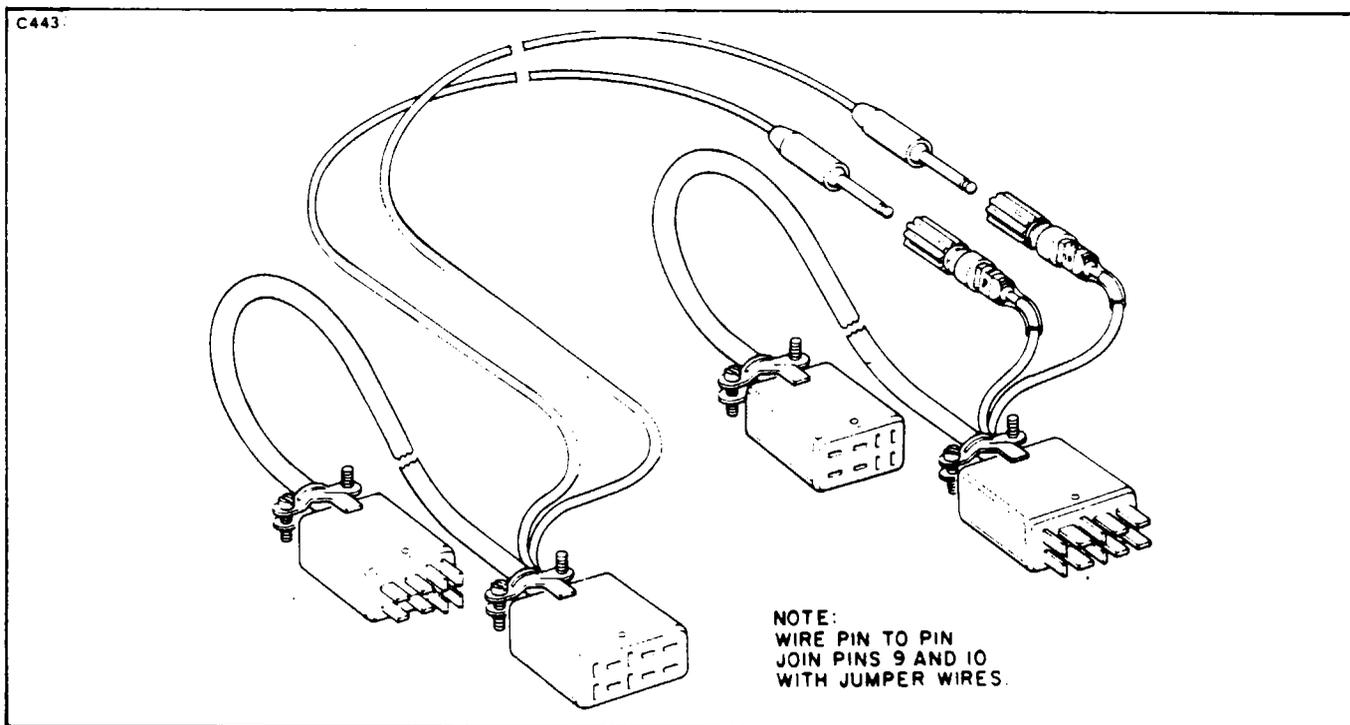

Figure 61-8. 10 Pin to 8 Pin Plug Adapters. P/N 5401-018
*Use of any Woodward test equipment with the Woodward synchrophaser system will require the use of a Jones plug adapter. Use the 10 pin to 8 pin adapter as shown in Figure 61-8. The external leads 9 and 10 can be disconnected or connected to either deactivate, or use the phasing portion of the control box during test. The external leads can also be used to test pickup resistance and volt values.*